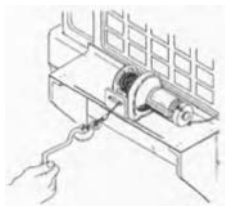

Figure 2
7. **KEEP CLEAR OF THE WINCH, WIRE ROPE, AND HOOK WHEN OPERATING WINCH. NEVER** put your fingers through the hook when reeling in the last few feet of line. If your finger should become trapped in the hook, you could lose your finger. Use the **HAND SAVER BAR** (Figure 2) to guide the hook within the last few feet. Never guide a wire rope on or off the drum with your hand.